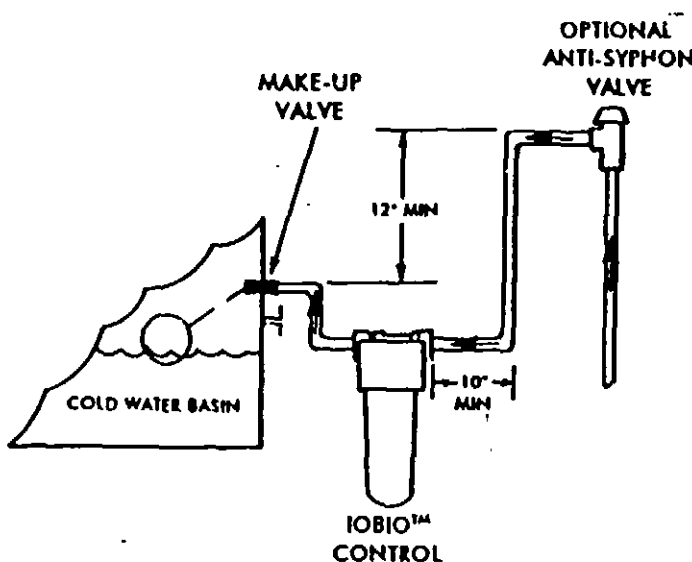
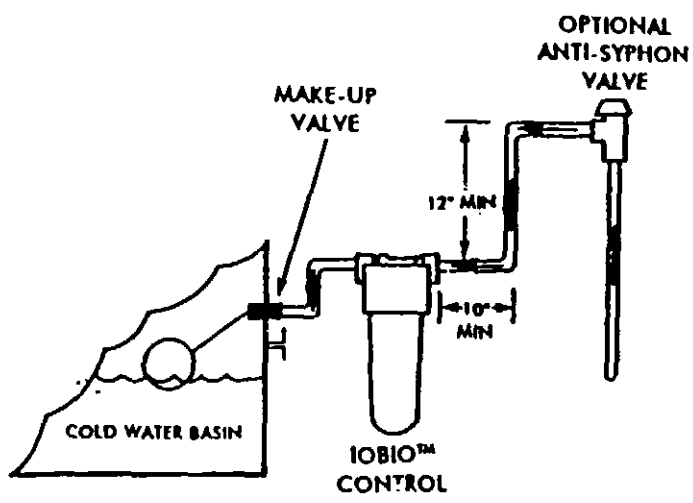

Figure 2A
Figure 2B
4. Locate a spot to mount the anti-syphon valve (if required), allowing a minimum valve elevation of 12 inches from the connections into the evaporative cooling equipment (Figure 2A) or the top of the IOBIO™ housing (Figure 2B), whichever is higher. The vertical dimensions are required for correct functioning of the anti-syphon valve. Whether or not the anti-syphon valve is installed a minimum straight run of pipe upstream of the IOBIO™ Control must be provided for correct functioning of the device.